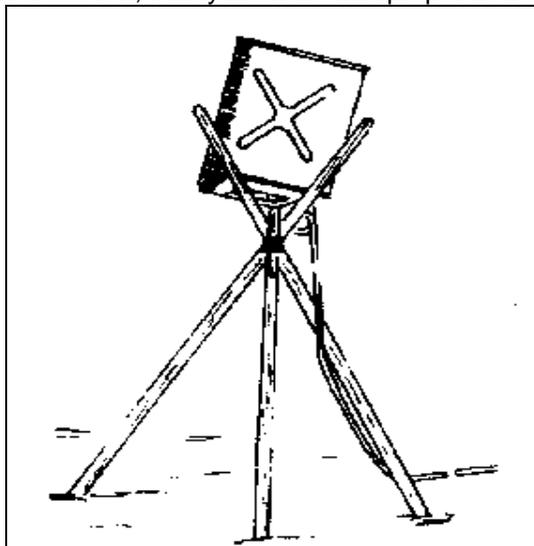

Figure 9
proper position. The fuel can, outfitted with a fuel can gravity feed adapter, must be mounted to the stand with the gravity feed adapter facing down. The design of the fuel can stand places the fuel can 2-3 feet above the fuel flow control valve. See Figure 9 below for an improvised support stand.
- Alternately, construct a fuel can tripod with three poles approximately 4.5 feet long (Figure 9). Tie these together about two-thirds of the length from the bottom, with nylon cord, rope or wire. Use a sling rope to secure the fuel can to the tripod. The height of the poles may need to be adjusted to ensure that the fuel can is two to three feet above the fuel flow control valve. If the fuel can is too high or too low, it may interfere with proper flow of fuel into the stove.